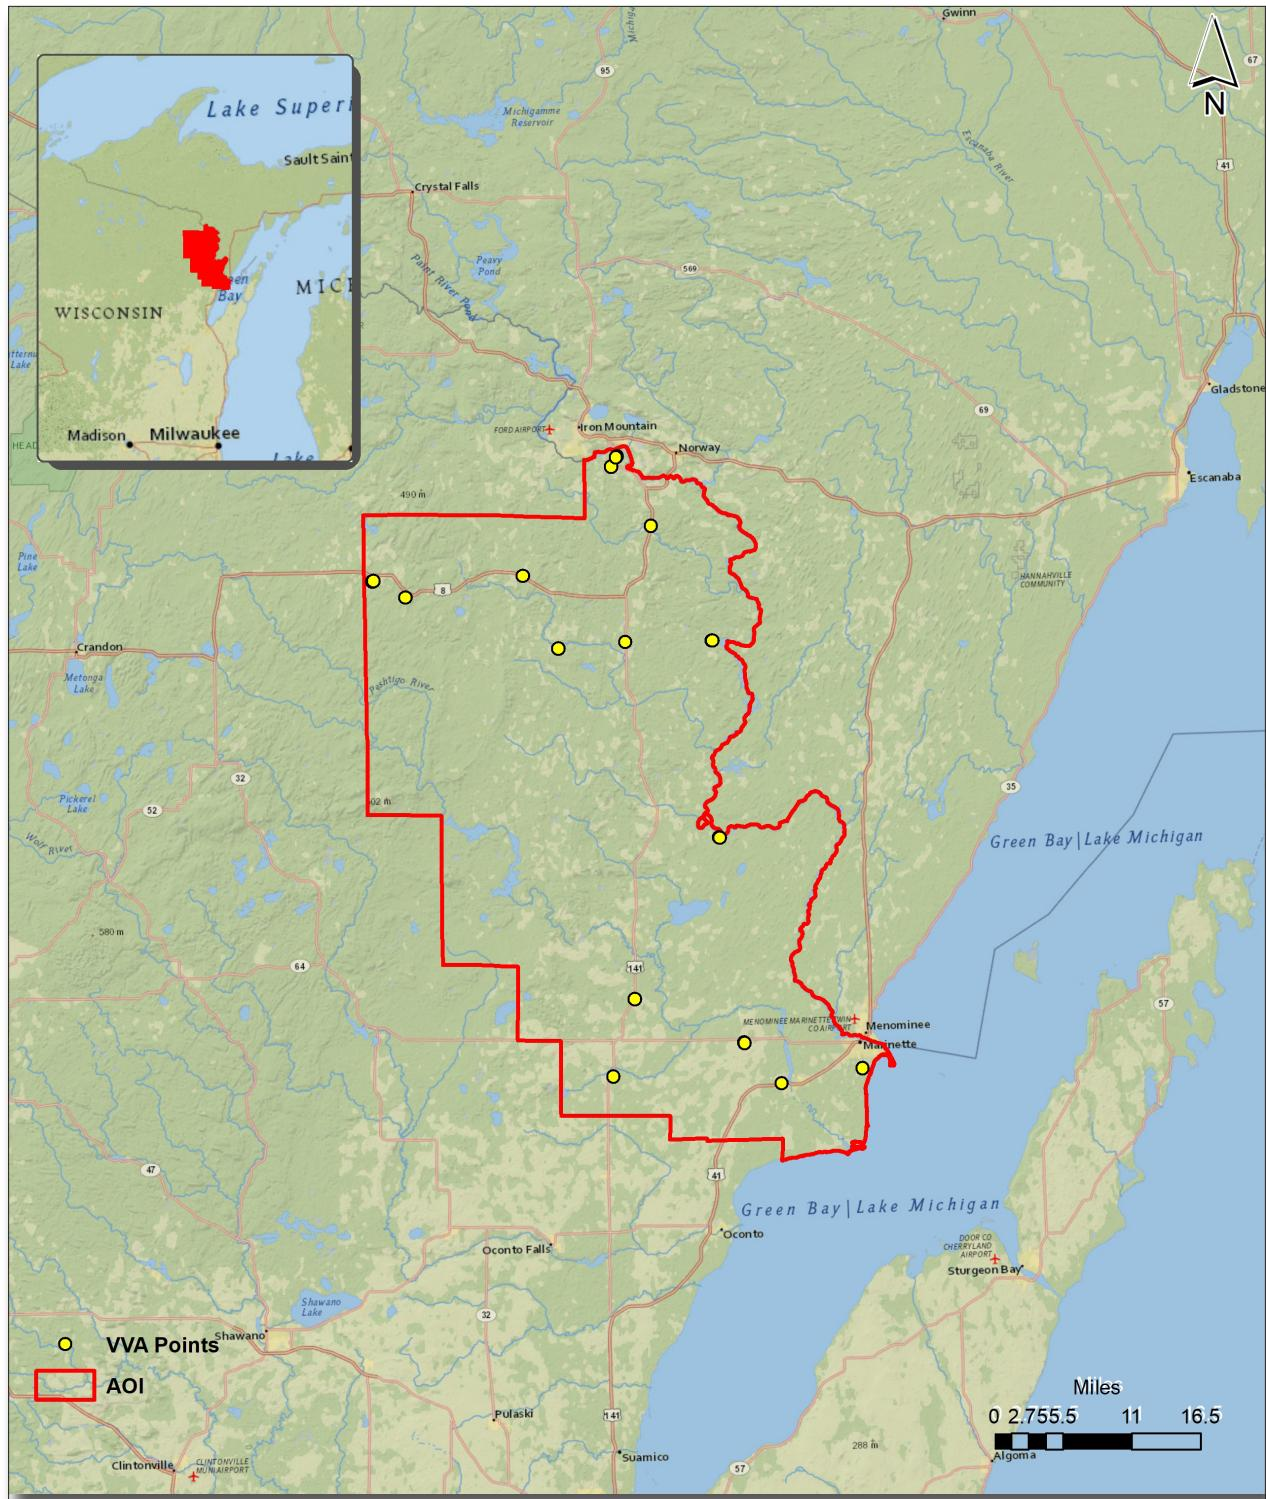

Figure 8. QC Checkpoint Locations - VVA
2. Vegetated Vertical Accuracy (VVA): VVA shall be reported for “brushlands/low trees” and “tall weeds/crops” land cover classes. The target VVA is: 29.4 cm at the 95th percentile, derived according to ASPRS Guidelines, Vertical Accuracy Reporting for lidar Data, i.e., based on the 95th percentile error in all vegetated land cover classes combined. This is a target accuracy. The VVA was tested with 159 checkpoints located in tall weeds/crops and brushlands/low trees (vegetated) areas. The checkpoints were distributed throughout the project area. See Figure 8.